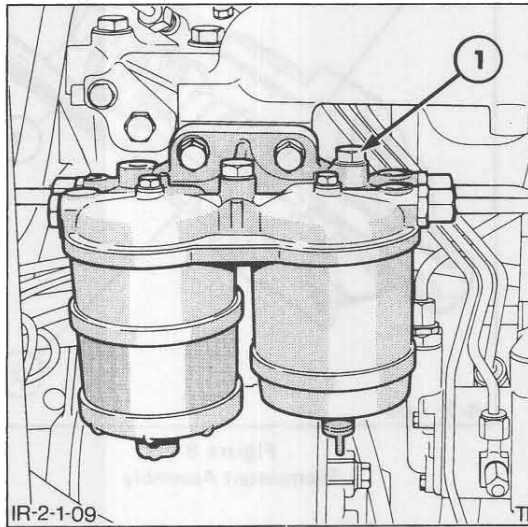

Figure 9
2. Loosen the bleed screw on top of the fuel filter/sediment separator, Figure 9, and allow fuel to flow until it is free from air bubbles. Re-tighten the bleed screw.